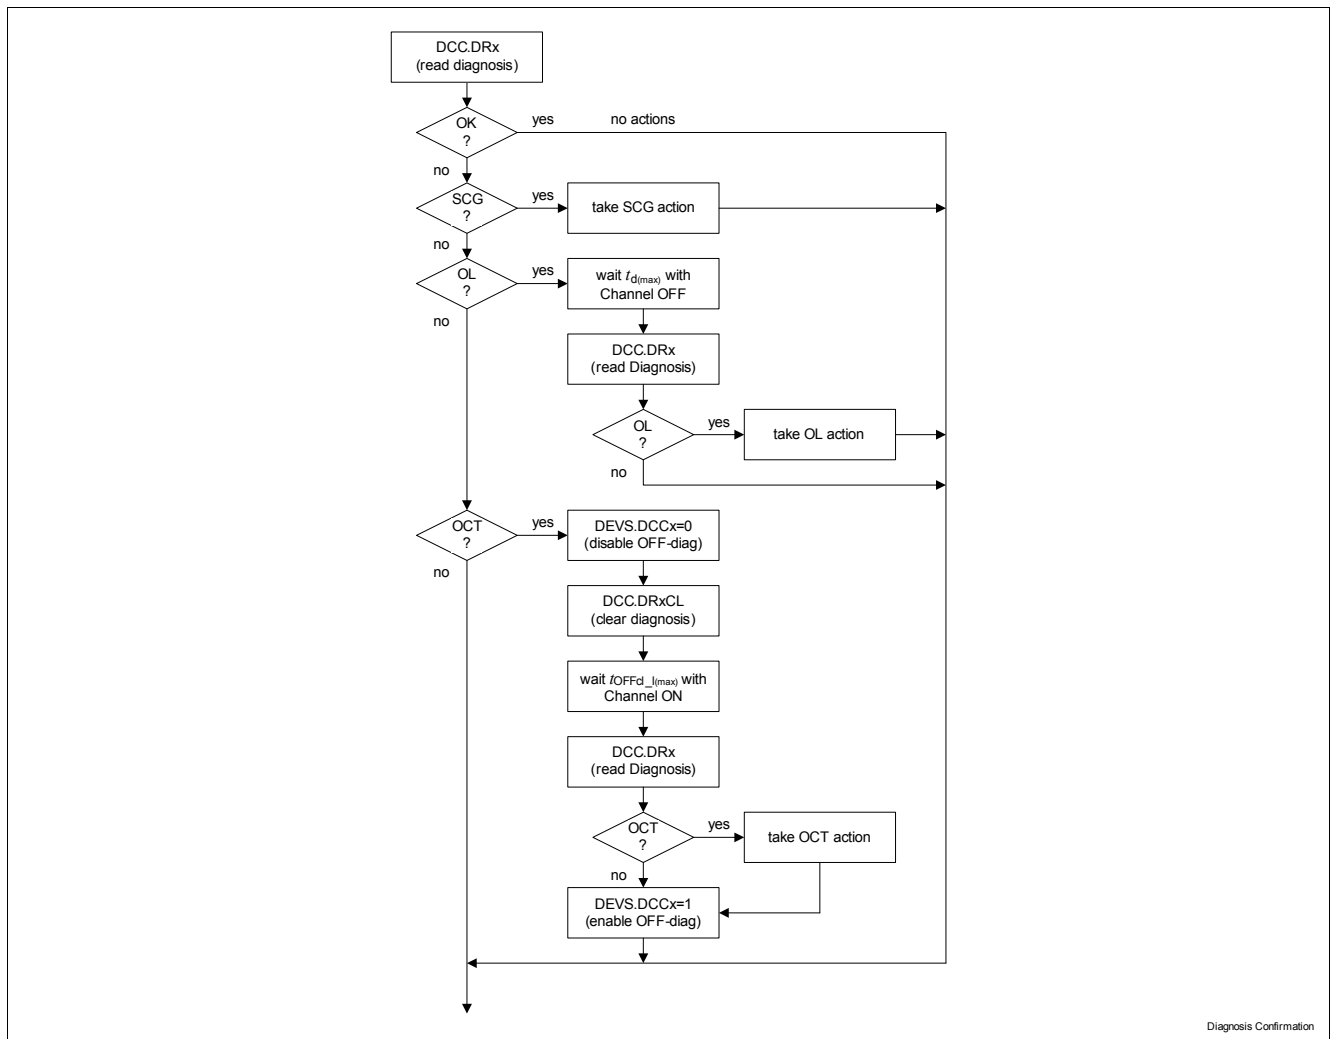

Figure 17 Diagnosis Confirmation procedure
3) For some diagnosis a confirmation procedure is required for a safe operation of the device, refer to Figure 17
Refer to Figure 17 for the procedure flow-chart.